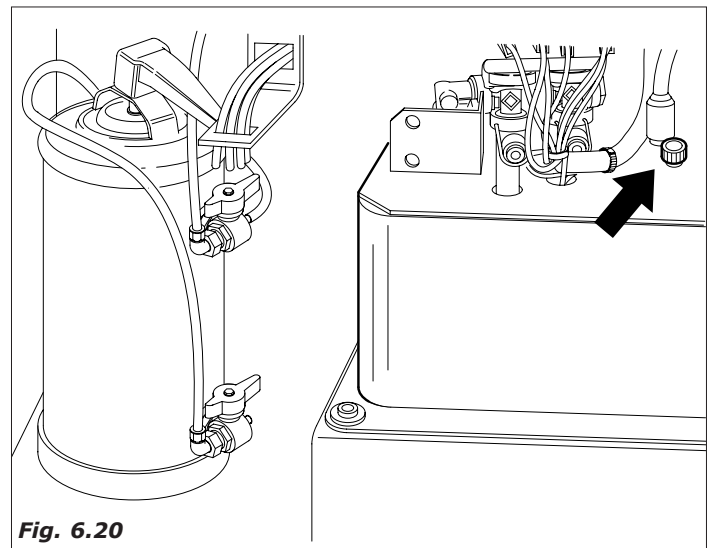

Fig. 6.20
- Remove the cap positioned on the top plate of the cooling unit and insert the instant boiler drain hose which is positioned along the liquid waste chute.(Fig.6.20).